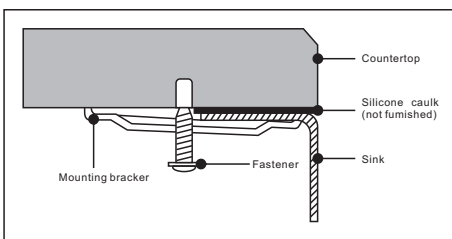

FIGURE 1
- A. Flush mount: Sink edge is flush with countertop opening.(FIGURE 1)